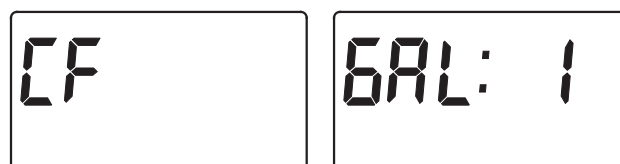
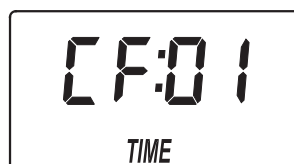

FIG. 27
FIG. 28
4. **CHEMICAL FEEDER TRIP VOLUME:** If you have set the auxiliary output control to CF (Chemical Feeder), you will need to set the volume of water which must flow past the turbine\* before the auxiliary output is turned on. With the alternating screens in Fig. 27 shown, use the  $\triangle$  UP or  $\nabla$  DOWN buttons to set the trip volume, in gallons. Then press the SELECT button to display the screen shown in Fig. 28.